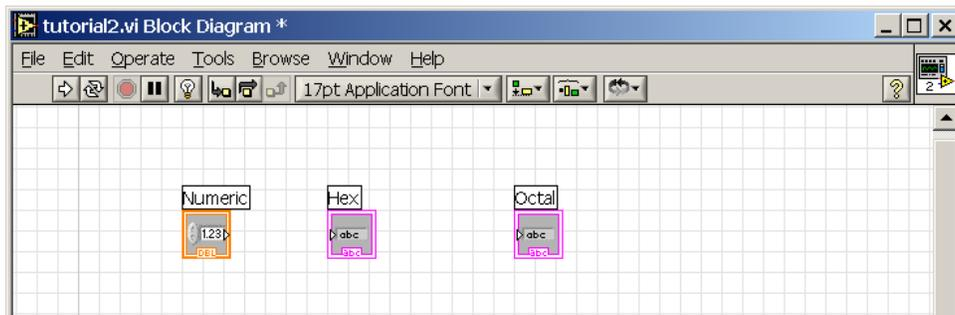

Figure 2
3. For the our data conversion, the objects required for our front panel have been taken care of. If we wish, we can change the labels of the two string indicators at this time to “Hex” and “Octal.” The next step is to focus our attention on the **Block Diagram** of our VI. We can do this by pressing **CTRL+E**. From the block diagram we see something similar to what is shown in Figure 2.